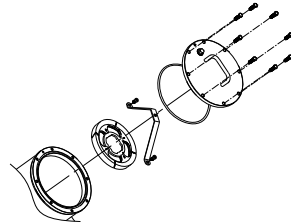

Figure 1
CAUTION – The lid weighs approximately 30 lbs. Use proper precautions when handling the lid to avoid injury or damage to the equipment. See Figure 1.
40. Secure the lid to the filter housing with the eight 1/2-13 lid bolts. The bolts should be tightened to 45 ft-lbs torque. See Figure 1.